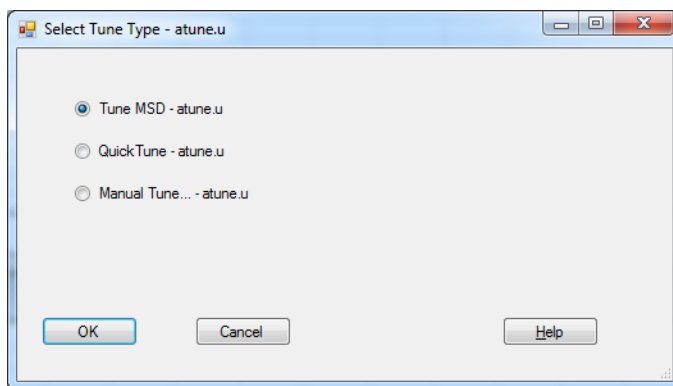

Figure 40 Select tune type dialog
- 4 Click the **MS Tune** icon to display the **Select Tune Type** dialog. (See **Figure 40**.)